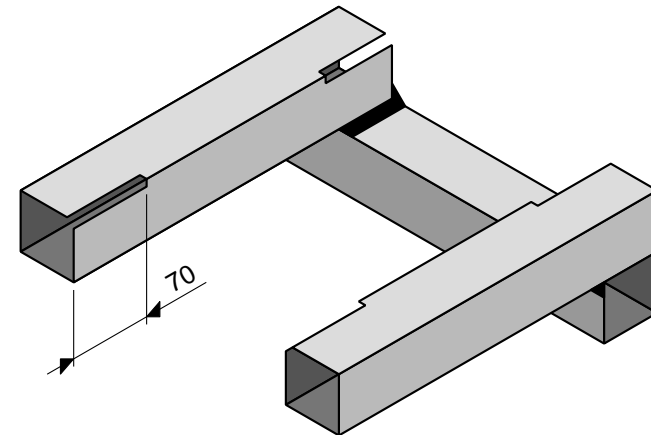

Figure 7: pad nail slots.
should be 15 mm and 65 mm from the ends of the square tube as shown in Figure 7. Blow the holes through with the welder at maximum current setting or use an angle grinder or file or hacksaw.
- 6) Next you can weld on the pad pivots blocks as shown in Figure 7.
are very loose in them. Make up the pads as shown in Figure 9, put the nail loop into the slot in the right place and weld the pad pivot blocks into place across the slot so that they are in the same place as in Figure 7.